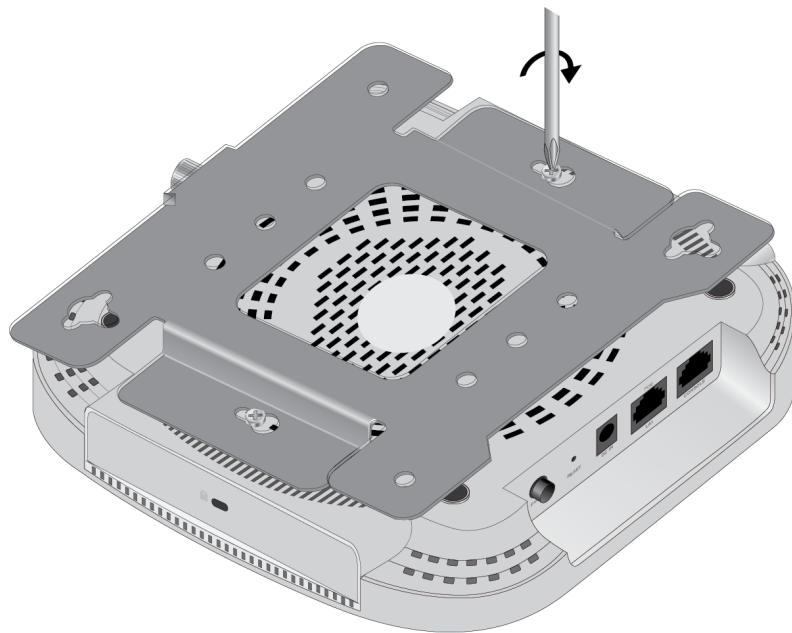

Figure 9. Adjusting the Screws on the Access Point
3. Tighten the screws so that they touch the mounting bracket and then loosen them by approximately 1/4 turn. Refer to Figure 9 on page 40.